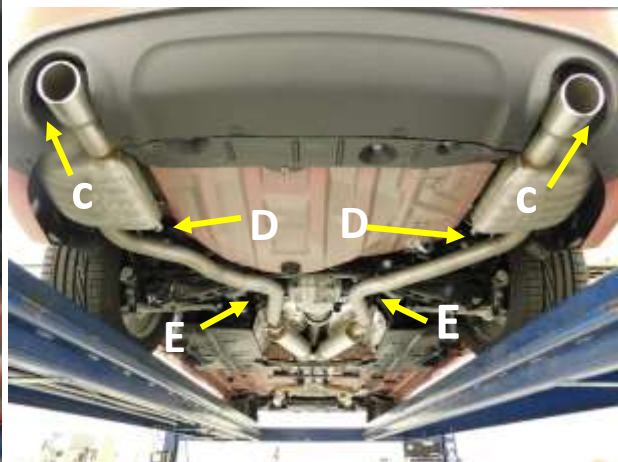

Figure 2
4. Remove the (x3) rubber exhaust hanger assemblies on each tailpipe (C), (D), & (E) by removing the M8 bolt attaching each assembly to the chassis. **Fig. 2**